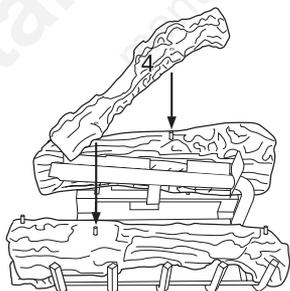

Figure 37 - Installing Log #4, Model CD42M-A
- Place log #4 (crossover log) onto pins from both logs #2 and #3 (see Figure 37).